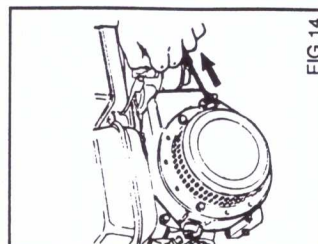

FIG. 14
- 4) Start the petrol engine by pulling the self-winding cord (fig. 14) until resistance is felt.